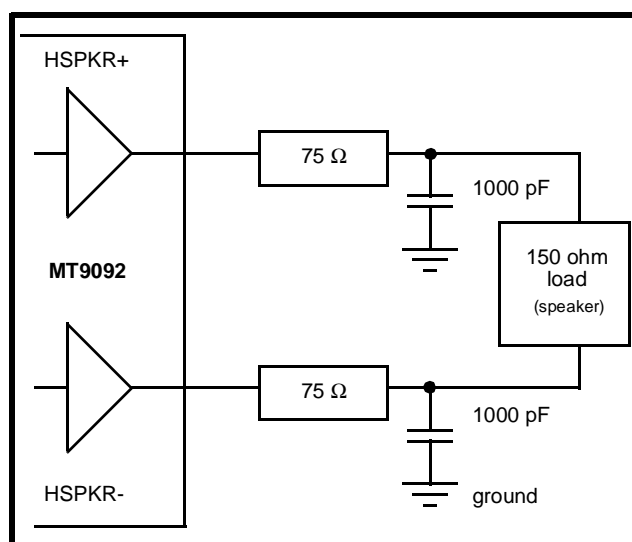

Figure 5- Handset Speaker Driver
- ◆ The handset speaker outputs (receiver), pins HSPKR+/HSPKR-. This internally compensated, fully differential output driver is capable of driving the load shown in Figure 5. This output is enabled/disabled by the HSPKR EN bit residing in the Transducer Control Register (address 0Eh). The nominal handset receive path gain may be adjusted to either -12.3dB (suggested for  $\mu$ -Law) or -9.7dB (suggested for A-Law). Control of this gain is provided by the RxA/ $\bar{u}$  control bit (General Control Register, address 0Fh). This gain adjustment is in addition to the programmable gain provided by the receive filter and DSP.